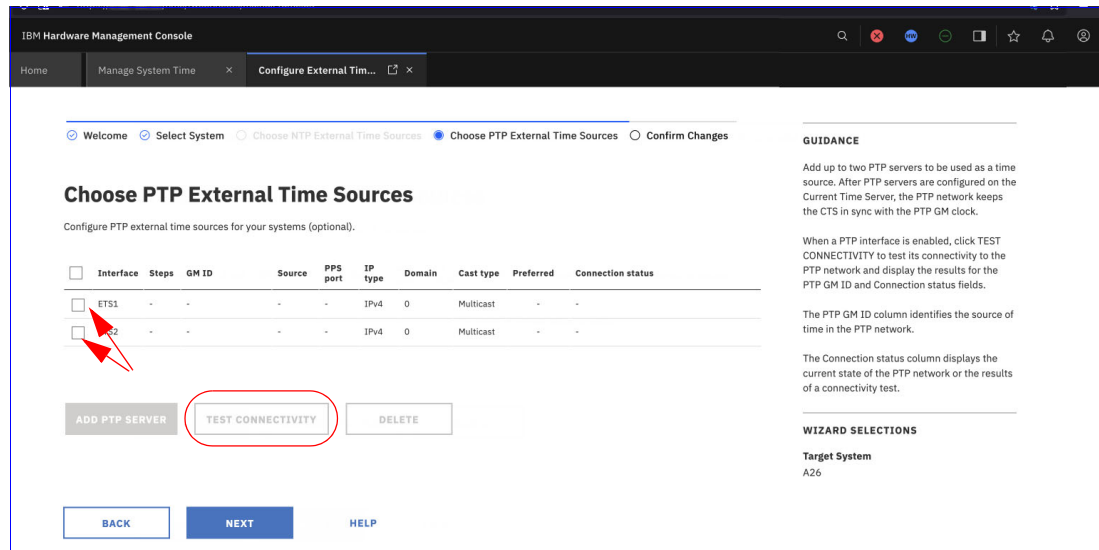

Figure 4-42 Selecting servers to test ETS (PTP) connectivity
9. Test the connectivity for both ETS servers (Figure 4-42 on page 89). To test server connectivity, select the checkbox for the servers.